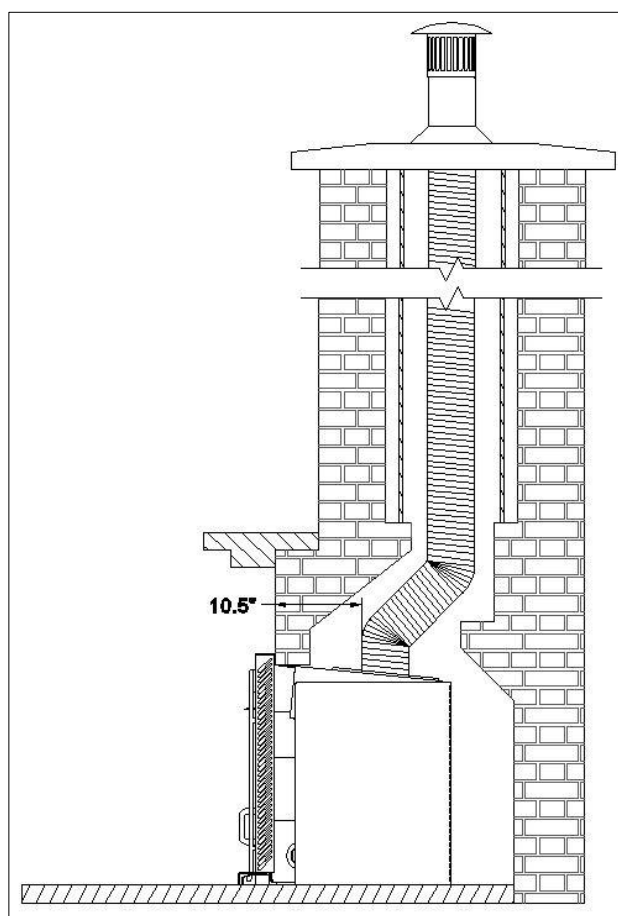

Figure 3-7: FUSION Installation
- b) Align the liner adaptor with the flue of the insert (Figure 3-7).